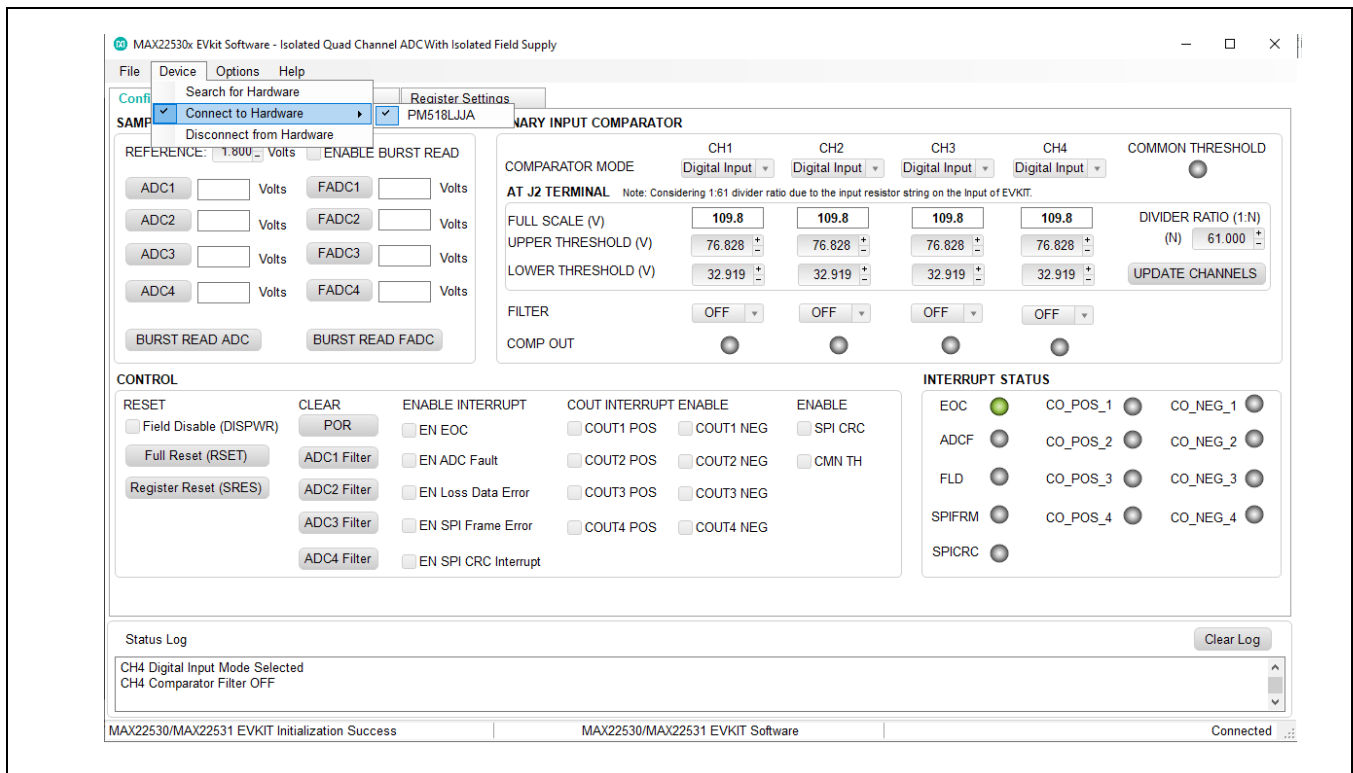

Figure 2. MAX2253x EV Kit Software Startup Window
6. If the software is launched with the EV kit connected, the hardware is detected, and the lower-right status bar indicates **Connected**. If the hardware is connected after the software is launched, from the **Device** menu, click **Search for Hardware** as shown in the Figure 2. Then select a device in the list or use the default device already selected.